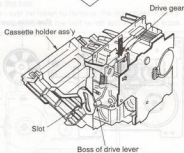

Fig. 1
1. Tilt the rib of cassette holder ass'y at the angle as shown in Fig. 1, and then force the cassette holder ass'y to the loading cassette mechanism unit.